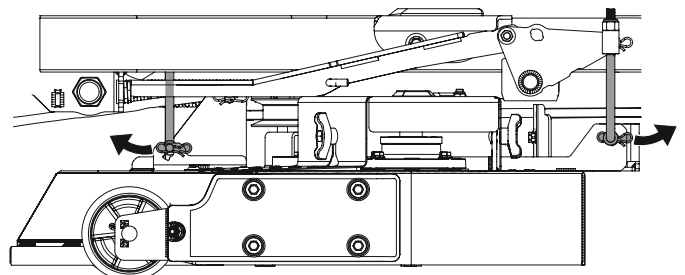

Figure 51
8. Remove the bow-tie pin from the bottom clevis end of each deck height adjust rod. There is one at the front and one at the rear on each side of the deck. See Figure 51. (Left side shown).